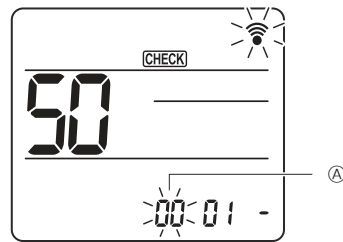

Fig. 7-18
② Setting the unit number
Press the [DOWN] button to set unit number ①. (Fig. 7-18)